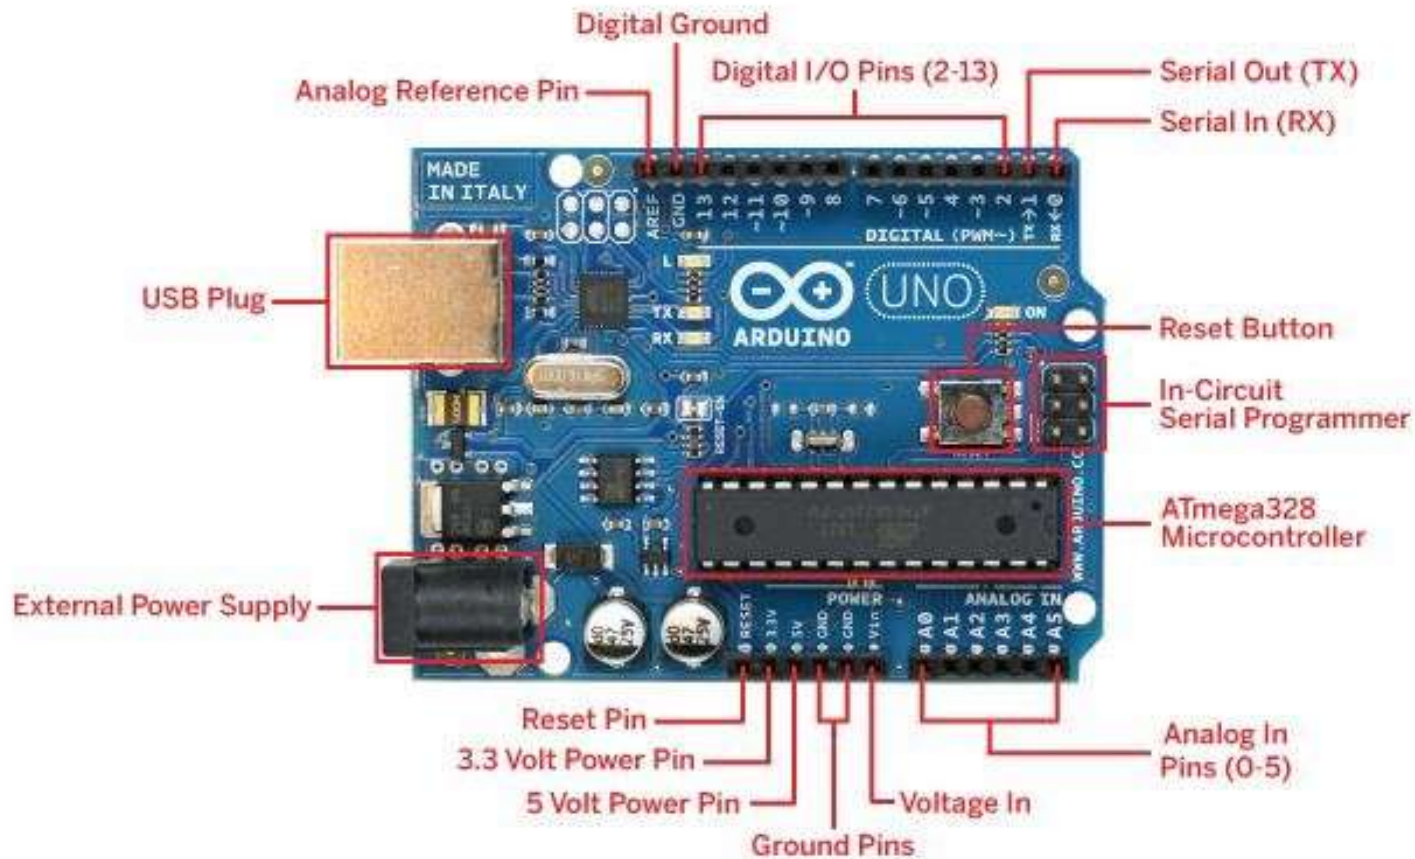

Figure 7.1 : Arduino Uno Learning Board
- The figure 7.1 shows an labelled Arduino board